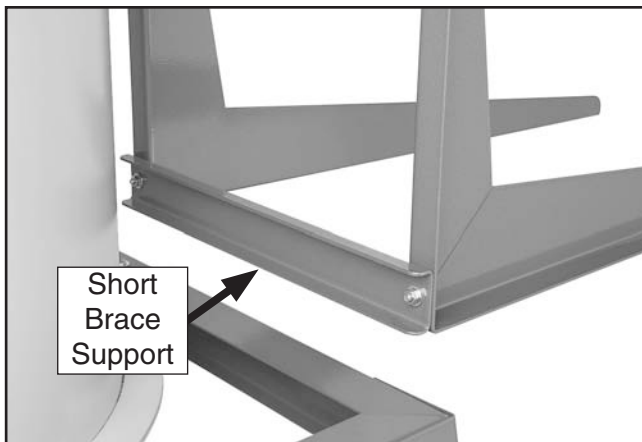

Figure 28. Short filter brace support attached.
30. Attach the filter L-braces to either side of the outlet port on the blower housing with (6) $\frac{5}{16}$ "-18 x 1" hex bolts, (12) $\frac{5}{16}$ " flat washers, and (6) $\frac{5}{16}$ "-18 hex nuts.
31. Secure the short filter brace support to the back of the filter L-braces with (2) $\frac{3}{8}$ "-16 x $\frac{3}{4}$ " hex bolts, (4) $\frac{3}{8}$ " flat washers, and (2) $\frac{3}{8}$ "-16 hex nuts (see **Figure 28**).